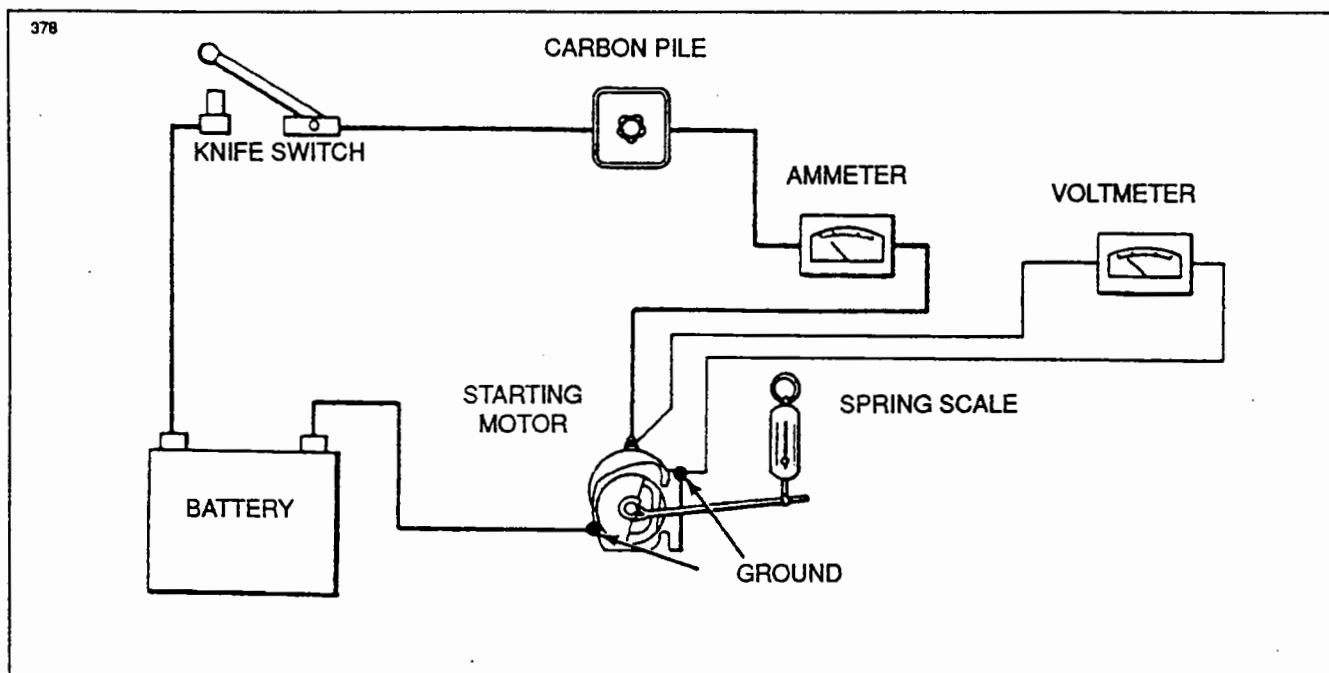

Figure 80-6. Stall Torque Hookup
2. If no difficulty is indicated in the above test, a stall torque test may be made to see if the starting motor is producing its rated cranking power. Make test connections as shown in Figure 80-6.